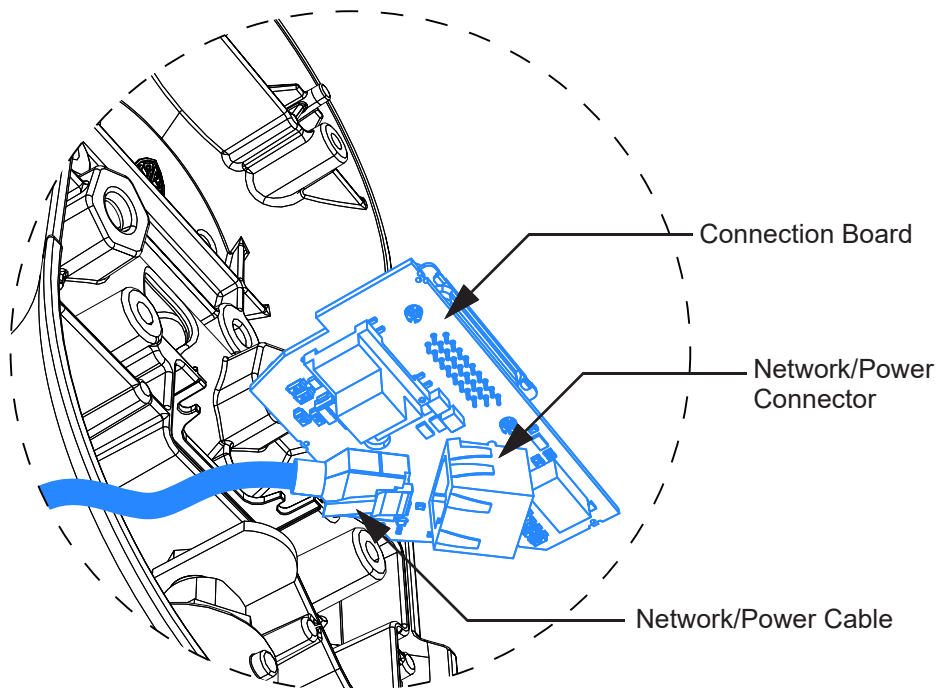

Figure 3-33 Cable Connection
Step 6 Plug in the power/network cable to the connection board, see **Figure 3-33**.